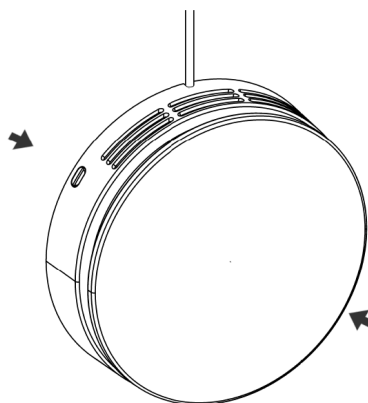

Figure 14 - Press down on the spring catches
2. Press down on the spring catches to make them release, see Figure 14 below.